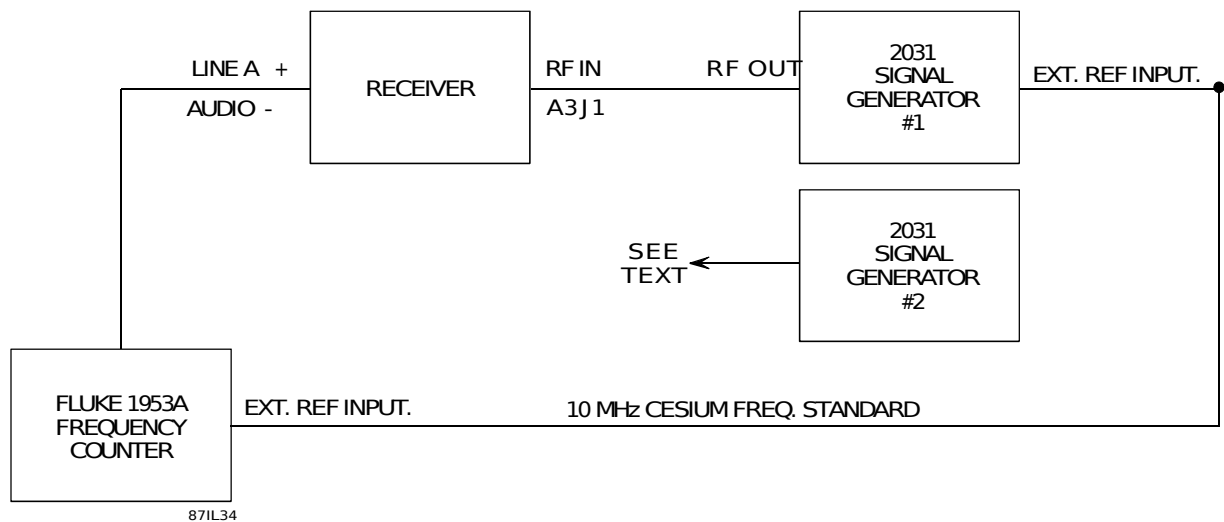

Figure 7-2. Reference Frequency Timebase Accuracy Performance Test Equipment Connection
1. Connect the WJ-8710A Receiver and test equipment as illustrated in **Figure 7-2**. Apply power to the receiver and test equipment and allow a warm-up period of at least 30 minutes before proceeding with the timebase testing.